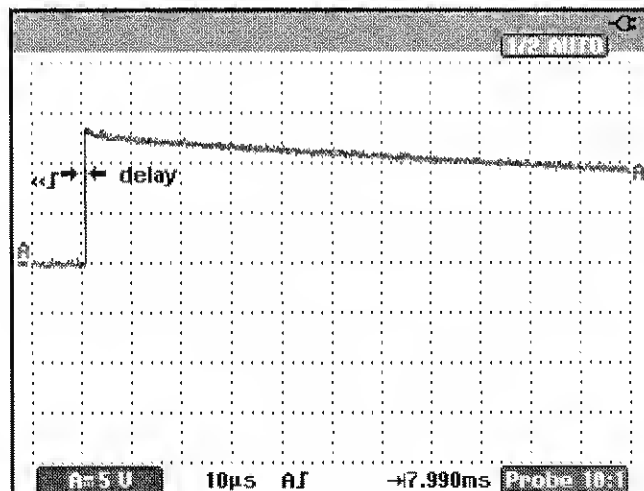

Figure 4-6. Time Base Verification
5. Examine the rising edge of the time marker pulse at the height of the trigger level indicator top. Verify that the rising edge is at the second grid line from the left. The allowed deviation is  $\pm 3$  pixels, see Figure 4-6.
9. Examine the rising edge of the time marker pulse at the vertical height of the trigger level indicator top. Verify that the rising edge is at the second grid line from the left. The allowed deviation is  $\pm 3$  pixels, see Figure 4-6.